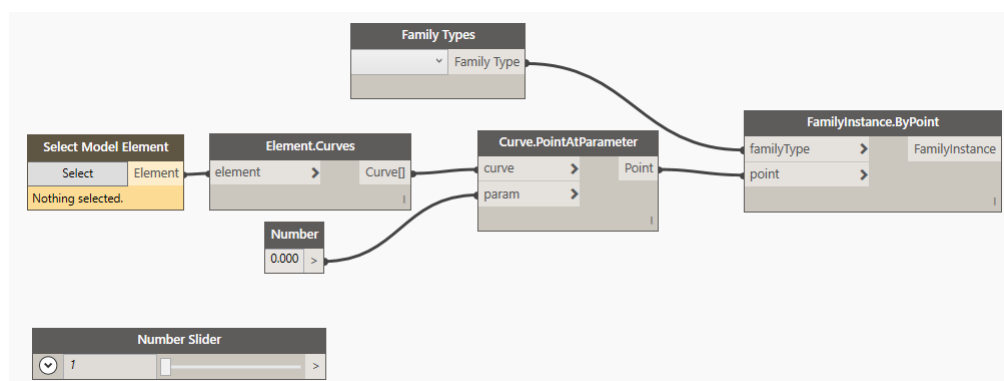

Figure 30
5. Position the nodes and wire them as indicated in Figure 30.